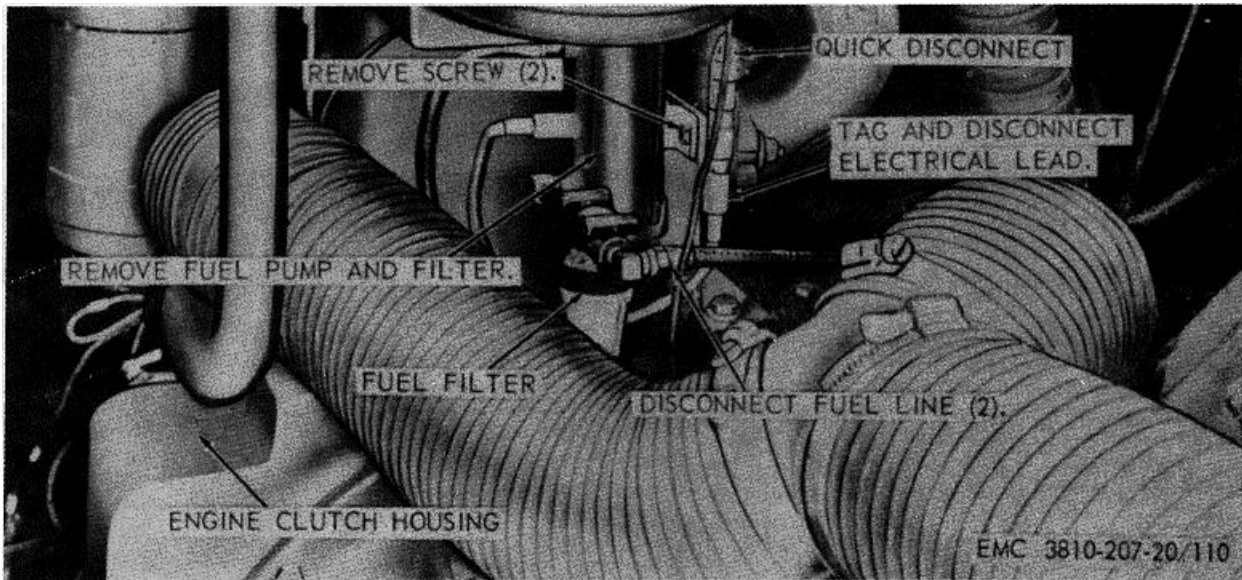

Figure 110. Fuel pump and filter, removal and installation.
a. Removal. Remove the fuel pump and filter as instructed on figure 110.
- (1) Clean all parts with an approved cleaning solvent and dry thoroughly.
- (2) Inspect all mounting hardware for damage. Replace damaged mounting hardware as necessary.
- (3) Inspect the fuel pumps and filters for breaks, bends, and other damage. Replace or repair fuel pumps and filters as necessary.
- (4) Inspect the fuel pump for proper operation. Replace a defective fuel pump.
c. Installation. Install the fuel pump and filter as illustrated on figure 110.